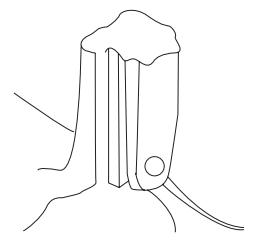

Fig. 21
- Secure the male and vertical strut in proper relationship to each other with sticky wax or autopolymerizing acrylic (Fig. 21).